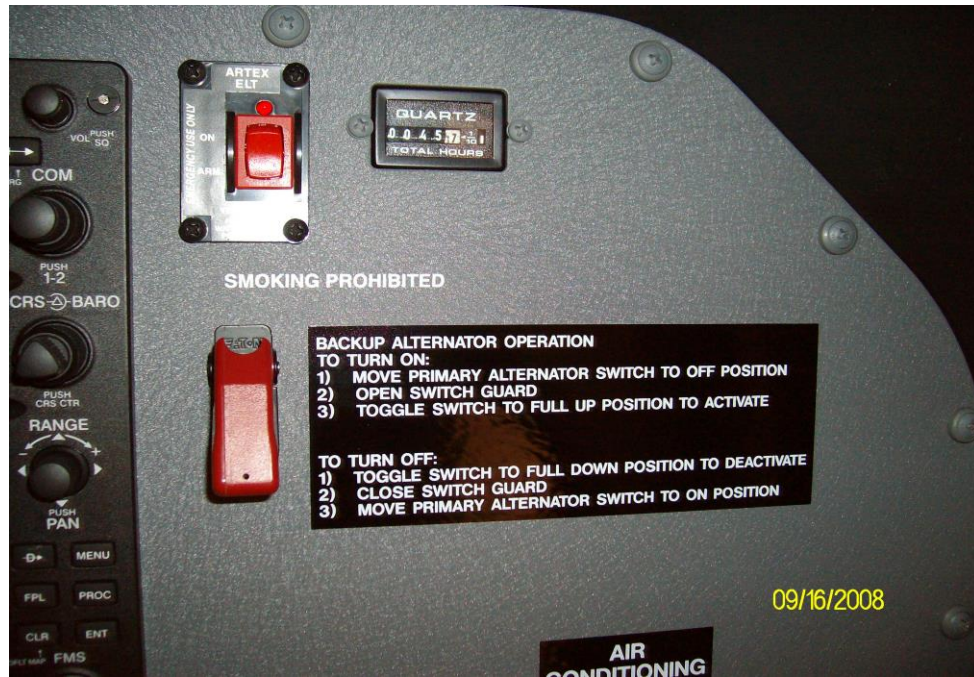

Figure 4 - Toggle switch and Placard location
- g) Toggle switch, switch guard and placard. See Figure 4.